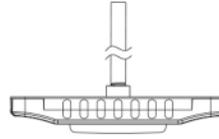

Figure 5
2. Screw the fixture to the 3/4"NPT Stem (Figure 5).